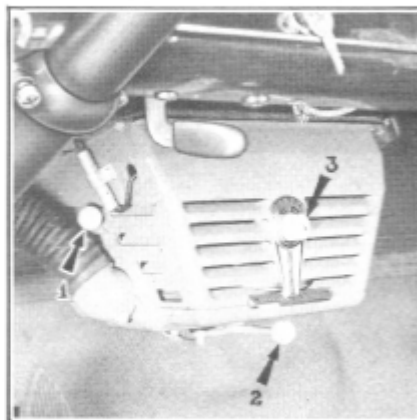

Figure 57
- (2) The automatic temperature control (26—Fig. 4—Page 18) should be set slightly to the right of center. Move to right to increase heat—to left to decrease heat. On Pacemaker models this control is located at the bottom of the heater (2—Fig. 57).
- (3) If car is standing or being driven at slow or intermittent traffic speeds, turn blower control (28—Fig. 4—Page 18) clockwise — first position for high or second position for low. On Pacemaker models control is located on front of heater (3—Fig. 57).
- (4) If fogging or frosting of windshield and windows occurs when passengers enter a cold car, turn the blower control to the first position until cleared.
- D—Heat is distributed from the front, back and both sides of the heater case so that a large volume of air can be supplied to adequately heat or cool the entire car interior without an excessive amount of air being directed on any of the front seat passengers. A knob located on the left side of the heater case (1—Fig. 57) controls the amount of air directed on the drivers' feet. The maximum is obtained when the knob is in the up position.